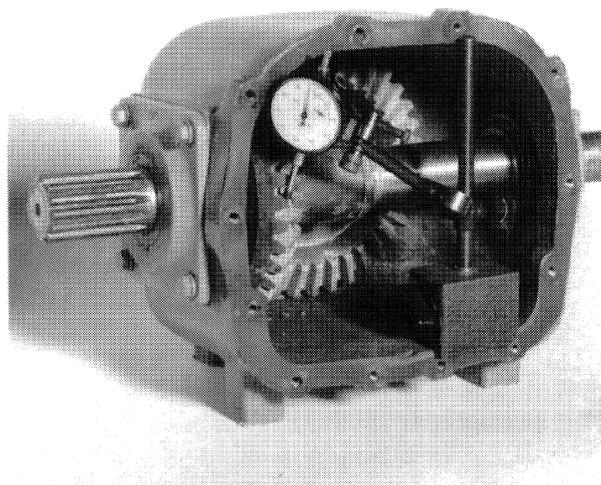

FIGURE 1-11
7. Measure the backlash as shown in Figure 1-11 after the proper rolling torque is obtained.